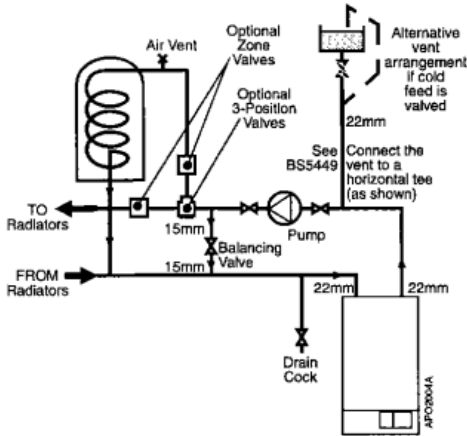

Fig. 2
a. Fully pumped open vented system with combined cold feed and vent - see Fig. 2.